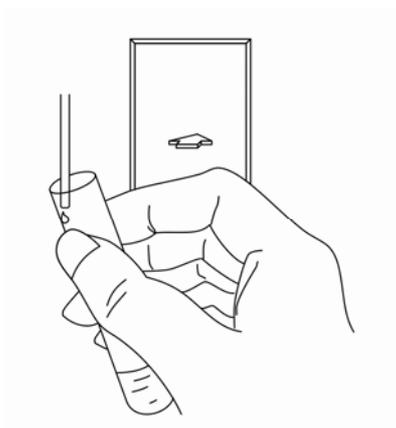

Figure 6-2 How to dispense diluent
6. Present a clean sample tube to the sample probe and make sure the tube is tilted towards the probe, as Figure 6-2 shows, to avoid spills and bubbles. Press the aspirate key to dispense 0.7ml of diluent (the dispensing volume is controlled by the analyzer) into the tube;